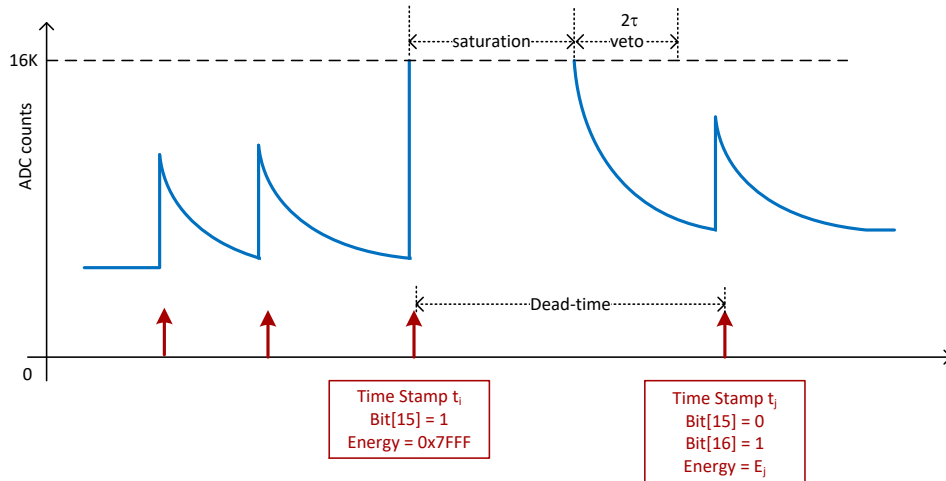
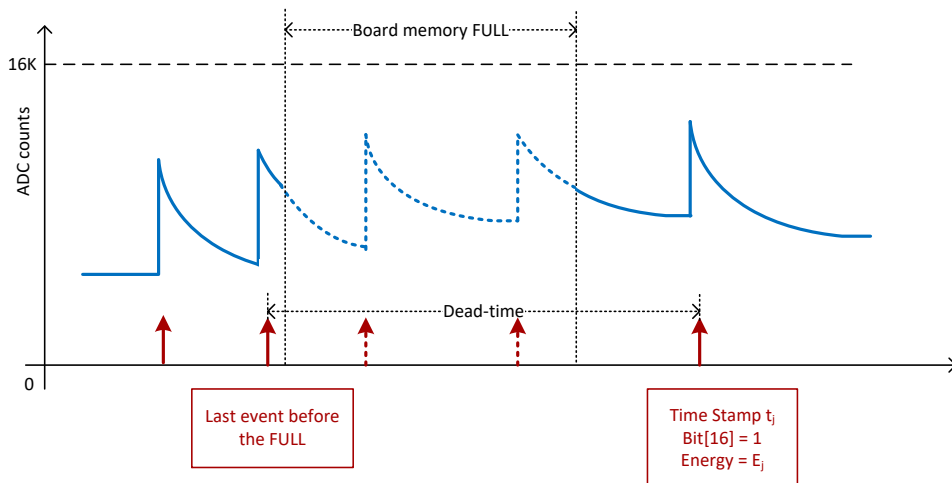

Fig. B.4: Dead-time in case of signal saturation.
Fig. B.5: Dead-time in case of FULL memory status. Events in the FULL are identified but not saved.
EXTRAS: bit[0] = DEAD_TIME. This is set to 1 when a dead time occurred before this event. The dead time can be due to either a signal saturation or a full memory status. Check **Fig. B.4** and **Fig. B.5** for more details
1. DEAD_TIME in case of signal saturation (see **Fig. B.4**). If the input signal is over-range (exceeds the input dynamic range of 16k ADC channels) then the acquisition is inhibited. As soon as the input signal is in saturation an event is saved with the corresponding time stamp, and bit[15] set to 1. The energy value is set to the maximum. This event has to be discarded for the energy spectrum, anyway it can be considered for the dead-time calculation. Once the signal is out of saturation a new trigger is inhibited for a time window of $2 \times \text{Decay Time}$. The first event after the saturation is tagged with bit[16] = 1.
2. DEAD_TIME in case of FULL board memory (see **Fig. B.5**). When the memory of the board is full (which is usually due to a write event), the board is not able any more to transfer the event data. When the board is ready again, the first event after the FULL will have the bit[16] set to 1, and the energy value as read from the algorithm. The dead-time is equal to the time difference between the last trigger occurred and the trigger after the FULL status.